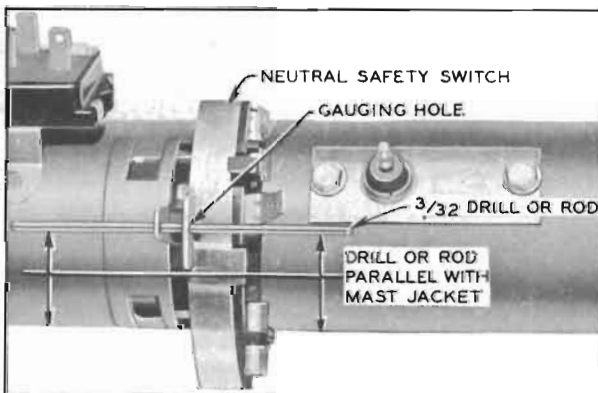

Figure 10-25—Checking Neutral Safety Switch Timing
3. Insert a  $\frac{3}{32}$ " drill or a piece of  $\frac{3}{32}$ " drill rod through gauging hole in operating lever and through gauging hole in switch body. **CAUTION:** *Be careful not to cause shift control lever to move out of neutral position. See figure 10-25.*